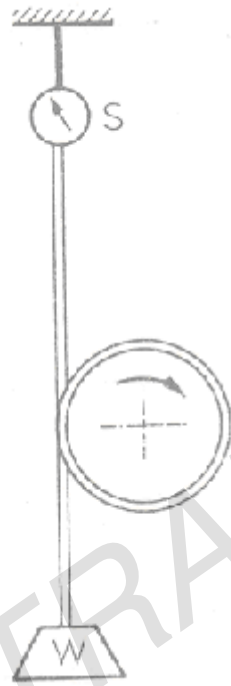

Figure 1:
7. A rope brake dynamometer, as shown in figure 1 is used to measure the output power of an engine running at 300 rpm. Find the torque and power measured, assuming: the diameter of brake drum = 1m, diameter of rope = 20 mm, weight $W = 400 \text{ N}$, and spring balance reading = 50 N. [16]